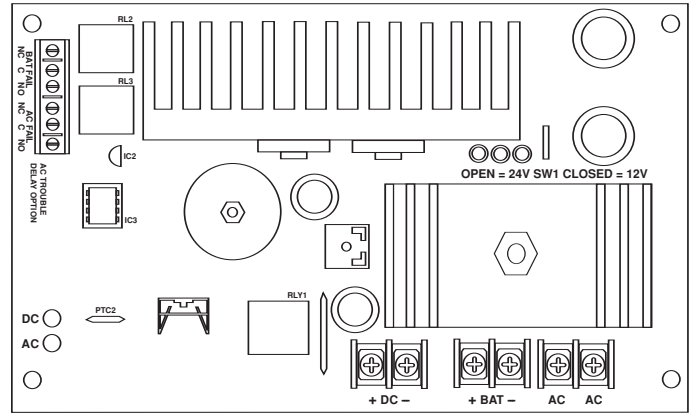

Fig. 1
3. Connect two (2) 28VAC / 200VA transformers (connected in parallel) to terminals marked [AC]. Use 14 AWG or larger for all power connections (Battery, DC output, AC input). Use 22 AWG to 18 AWG for power limited circuits (AC Fail/Low Battery reporting).
5. Connect devices to be powered to terminals marked [+ DC -] (Fig. 1).
6. For Access Control applications, batteries are optional. When batteries are not used a loss of AC will result in the loss of output voltage. When the use of stand-by batteries is desired, they must be lead acid or gel type. Connect battery to terminals marked [+ BAT -] (Fig. 1).
7. Connect appropriate signaling notification devices to [AC FAIL & BAT FAIL] (Fig. 1) supervisory relay outputs. **Note:** When used in fire alarm, burglar alarm or access control applications, “AC Fail” relay must be used to provide a visual indication of AC power on.